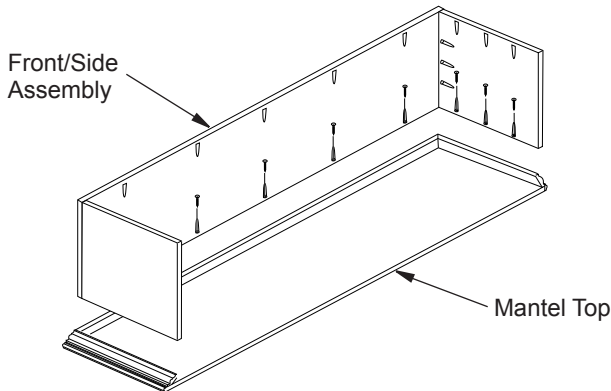

Figure 6 - Attach Side/Front Assembly to Mantel Top
2. Place mantel top on floor with right side down. Attach side/front assembly to mantel top using (11) 1 1/4" screws (see Figure 6, page 3).